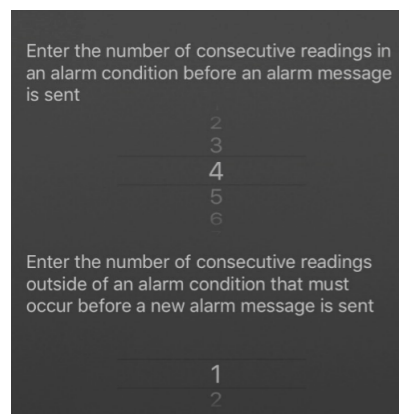

Fig. 5
7. Alarm Delay – Configure how many readings must occur in an alarm condition before you are notified and how many readings after the temperature normalises before a new alarm condition will be sent to you (See Fig. 5).